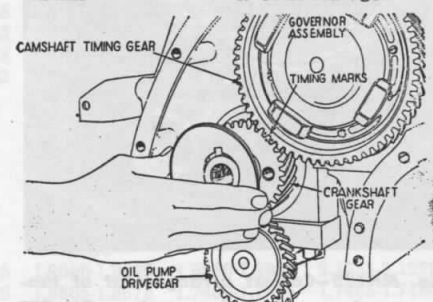

Fig. MH133—Massey-Harris timing gear marks and oil pump drive gear.
46. To remove timing gear cover first remove the hood, radiator and grille. Remove fan blades, belt and crankshaft pulley. Disconnect governor linkage at governor arm. On model 44 remove hydraulic system pump, or pump and auxiliary cover, from upper left corner of timing gear cover. Loosen engine support bolts, raise front end of engine slightly, and block in position. Remove timing gear case cover and check timing gear marks as per Fig. MH133 to insure reinstallation in correct position.